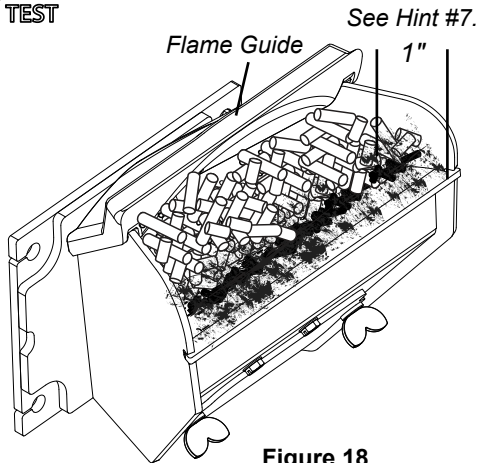

Figure 18
7. Setting the feed limit # for maximum burn: With the unit burning in "AUTO", turn to "Stove Mode" and put the fan on "H". Set the Temperature Dial to #7. Allow the unit to burn for about 30 minutes and check ash on front of burn pot. Figure 18. If the ash line is larger than 1", turn the feed limit from #4 to #5. Allow another 30 minutes of burn time and check again. If, at #6 setting, a 1" or less ash bed is not obtainable, it is not a problem. The 1" ash bed is only a maximum burn rate and at most normal settings the ash bed will be larger.